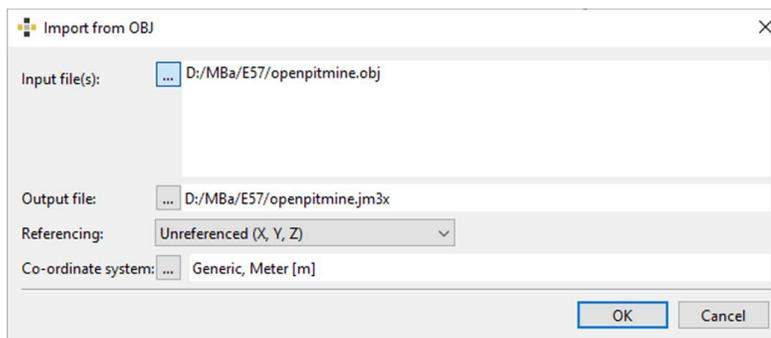

Figure 4: Import from OBJ
2. The “Import from JM3” dialog (Figure 4) appears requiring the path and name of the input (.jm3”) and output (.jm3x) file.